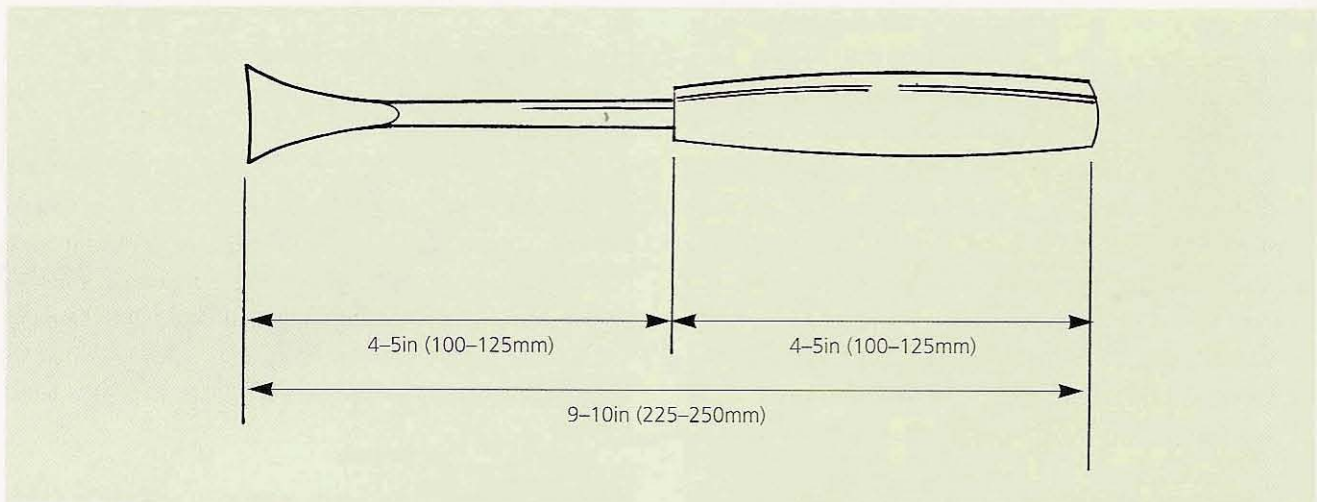

Fig 3.11 The overall length of a carving tool will involve a balance between the length of the blade and that of the handle
- A good overall length for a woodcarving tool is somewhere between 9 and 10in (225–250mm), so you need to adjust the length of handle to suit. Around 4–5in (100–125mm) for the handle is common (Figs 3.11 and 3.12).